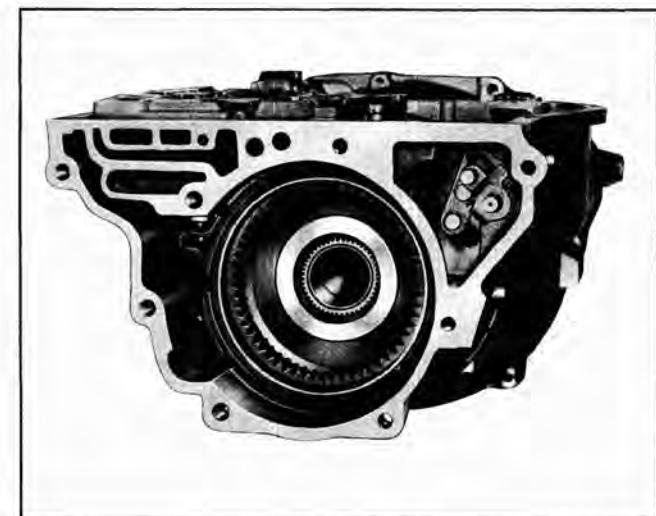

Fig. 119 Rear Internal Gear
3. Install front sun gear and shaft assembly through case center support aligning splines of sun gear shaft with rear internal gear and cutaway splines with sprag retainer. **CAUTION:** Be sure to hold rear unit internal gear forward during this operation (Fig. 119.).